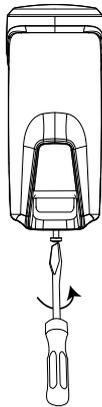

Figure 12: Unscrewing the bracket
1. Unscrew the bottom screw of the bracket and remove the detector. See Figure 12 and Figure 13.